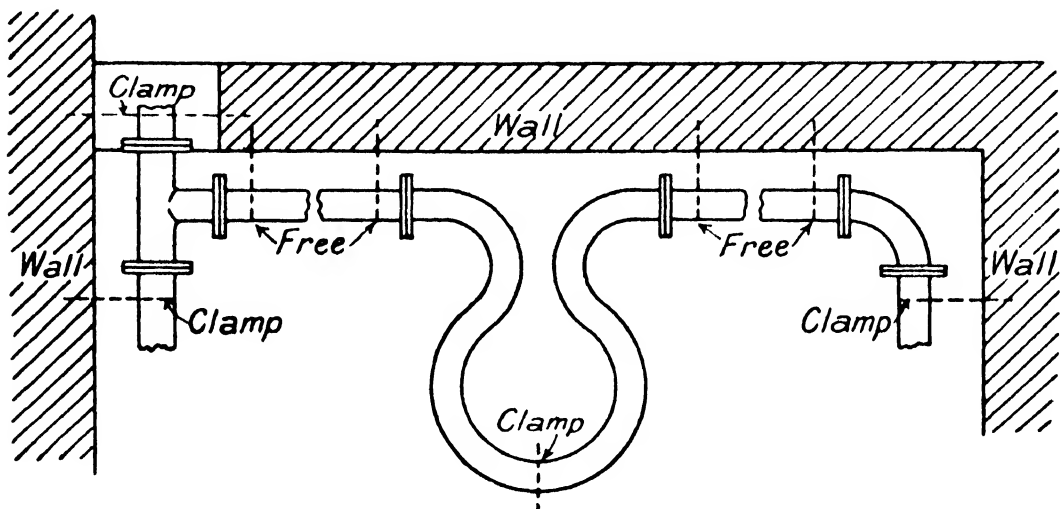
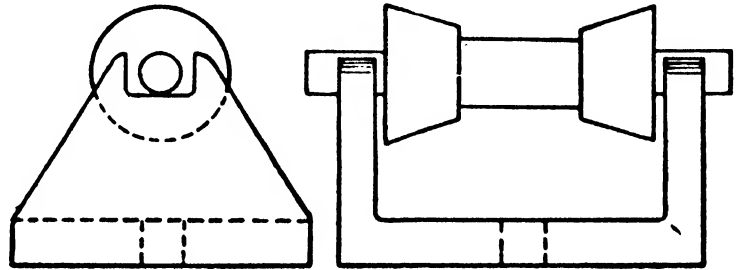
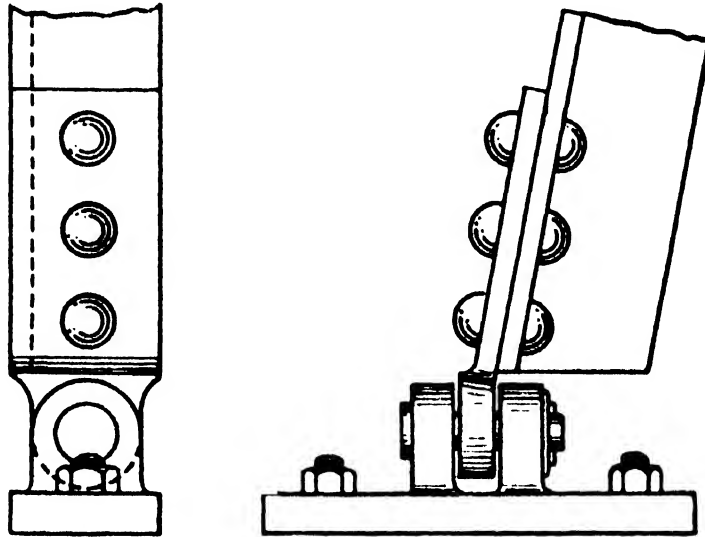

FIG. 102.—Diagram of Steam Range with Expansion Loop.
FIG. 103.
FIG. 104.—Pivoted Trestle Leg.
**Steam Ranges.**—Pipes that have widely differing temperatures need special consideration. Such pipes are mainly for steam, and provision has to be made for expansion and contraction, as these seriously affect a range of long length. A diagram of the customary method of securing and supporting a steam pipe is given in Fig. 102. There are two means of supporting the pipe to allow for this variation in its length. One is by slings, and the other is the bracket and roller method as shown in Fig. 103. When conditions will permit the sling is the favoured way, as by this method the pipes can be completely and neatly covered with insulating material, whereas a certain portion must be left uncovered for the paths of the rollers when those are fitted to carry the pipes. Another means of supporting long pipe lines for steam when short slings are used is to have trestles that are pivoted at the base, as shown in Fig. 104. This is a very satisfactory method, for